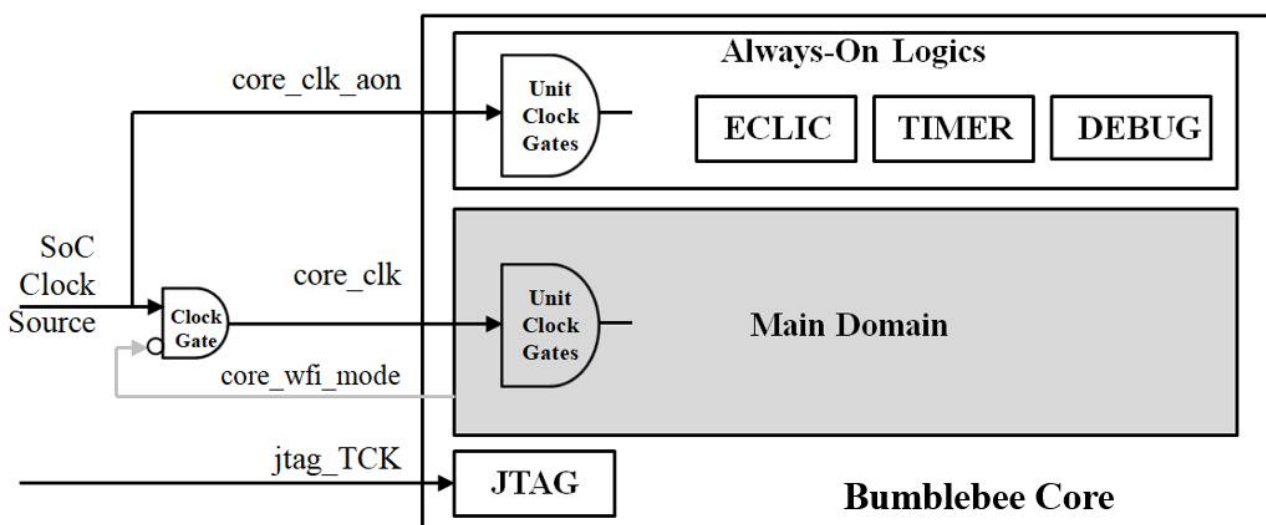

Figure 2-1 Clock domains of the Bumblebee Core
The clock domains of the Bumblebee core are shown in Figure 2-1. The entire processor is divided into two asynchronous clock domains:
- As shown in Figure 2-1, when the WFI is successfully executed, the output signal `core_wfi_mode` of the Bumblebee Core is asserted, indicating that the processor core has entered to the sleep mode after executing the WFI instruction; from the sight of SoC, the signal `core_wfi_mode` can be used to control the external gate logic to disable the `core_clk`.